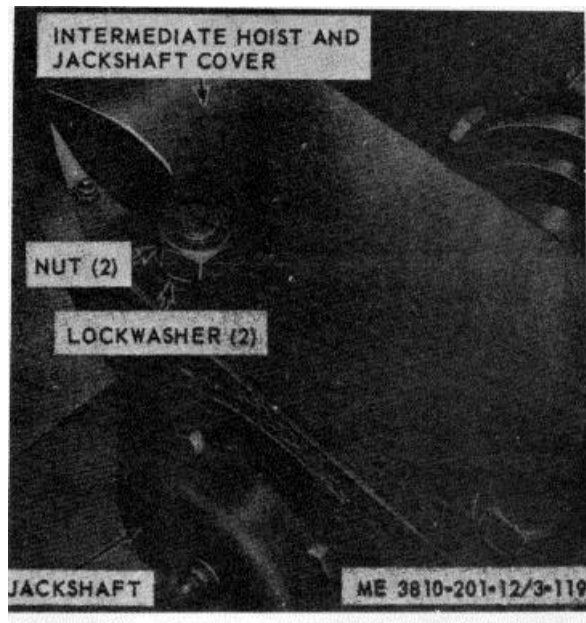

Figure 3-119. Intermediate hoist and jackshaft cover, removal and installation.
g. Intermediate Hoist and Jackshaft Cover, Removal and Installation. Refer to figure 3-119 and remove intermediate hoist and jackshaft cover. Install in reverse order.
(1) Clean all parts in an approved cleaning solvent and dry thoroughly.
(2) Visually inspect guards and covers for cracks, breaks, or dents. Inspect mounting hardware for burs, stripped threads or other damage.
(3) Repair by welding cracks or breaks, straightening dents, or replacing defective hardware, guards, or covers.